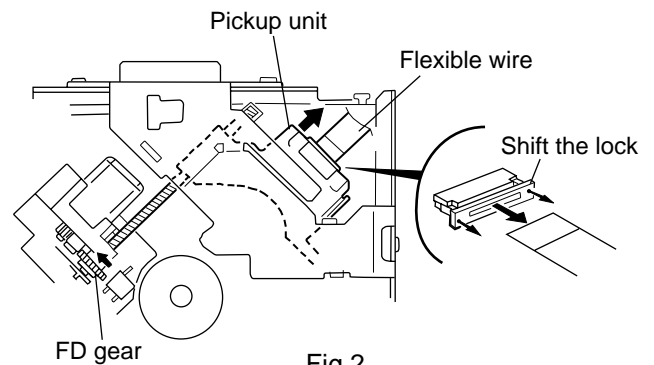

Fig.2
■ Removing the front chassis assembly (See Fig.2 to 4)
(Refer to Fig.2)